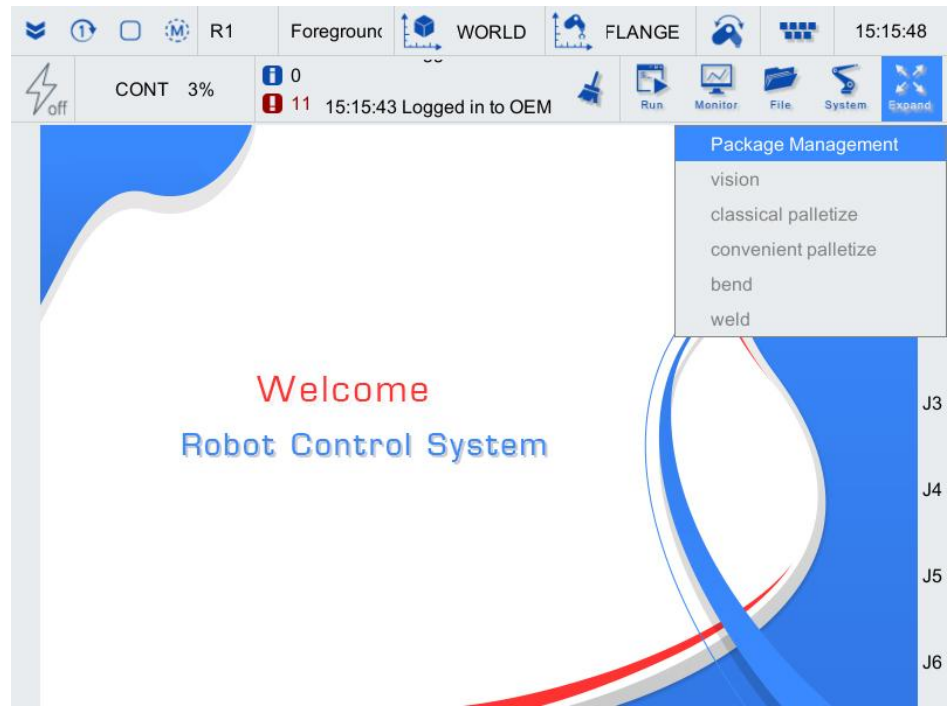

Figure 2-1 Feature Pack list
- Step3. Click [Extend] to pop up the drop-down list as shown in Figure 2-1.